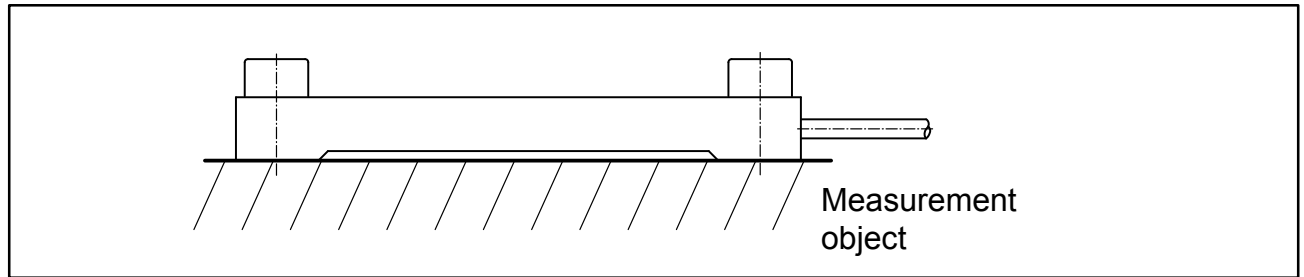

Fig. 5.1: Installation of the strain transducer
- The strain transducer must not touch in the central lower area (see Fig. 5.1) and must be mounted without tension.
- Mount the strain transducer as shown in Fig. 5.1.